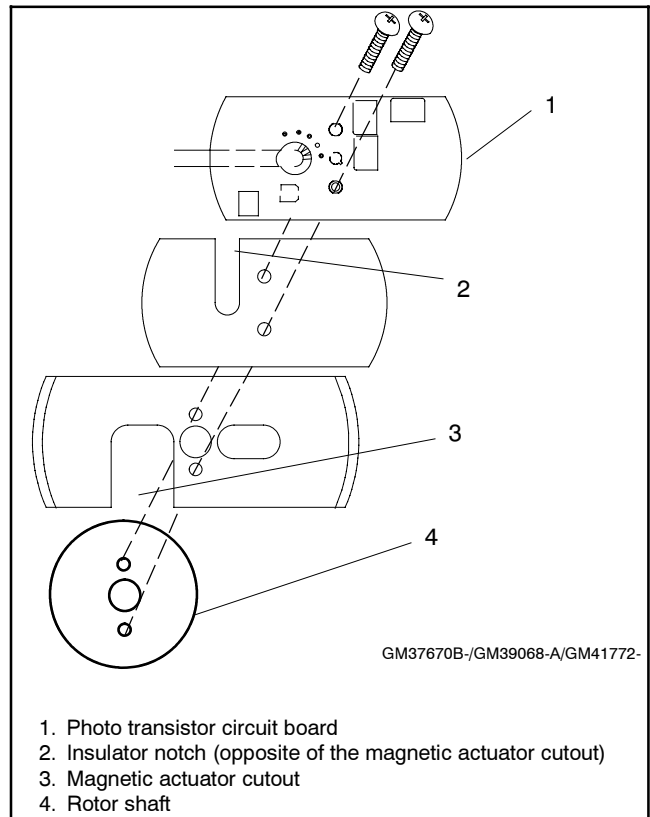

Figure 4-20 Photo Transistor Circuit Board Mounting (350/400 kW models shown)
17. Attach the drive disc(s) to the end of the rotor shaft with the hole burr side toward the alternator fan and with the hex hole at the stator bottom position or within 60° clockwise (CW) or counterclockwise (CCW) of the bottom position as viewed when the stator is installed on the skid. Torque the drive disc(s) mounting bolts to specifications. Remove the two alignment pins or bolts.
19. **350/400 kW only.** Remove the photo transistor circuit board service tool. Attach the photo transistor circuit board, insulator, and magnetic actuator to the rotor shaft using two screws. Position the insulator notch *opposite* the magnetic actuator cutout. See Figure 4-20.